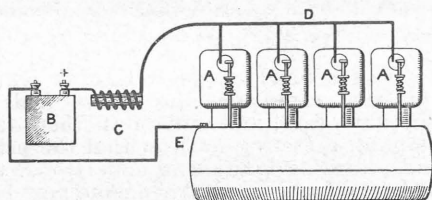

Fig. 7.—Accumulator and solenoid connected to four-cylinder engine.
We have now shown how low-tension ignition can be used with a single cylinder. If we liked, we could fit exactly the same arrangement to each cylinder of an engine having two, four or any other number of cylinders. But there is a much simpler way than that. We can use one accumulator and one solenoid for any number of cylinders. Fig. 7 is a sketch of a four-cylinder engine. Each cylinder has the plug and tappet arrangement or "trip gear" just described. We have an accumulator (B) with its - terminal "earthed" at E, and its + terminal going to the solenoid (C). The other end of C is connected to a wire or rod running all along the engine, with branch connections to the insulated terminal of each cylinder. Electricity will flow from the accumulator through C to D and back through whichever cylinder a contact is made by the trip gear. This gives us another reason for only making contact in a cylinder just before the spark is required. If contact were always made in all four cylinders, we should get no spark by breaking one contact. The electricity would simply flow quietly through the other three.